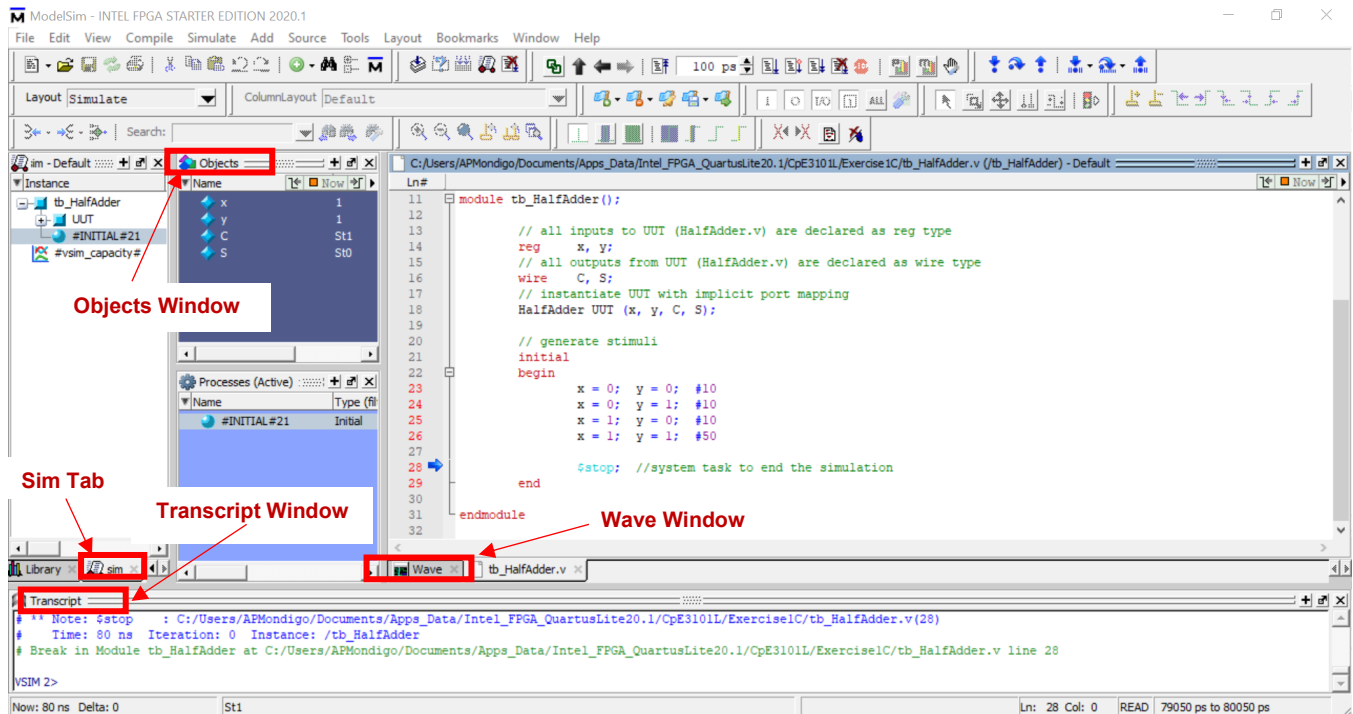

Figure 6. ModelSim - Intel FPGA Starter Edition GUI
11. To generate and run the ModelSim-Intel FPGA Edition automation script from within the Intel Quartus Prime software, click **Tools > Run Simulation Tool > RTL Simulation**. This will launch the ModelSim-Intel FPGA Edition simulator, as shown in Figure 6, and will simulate the Half Adder design. The testbench file, **tb_HalfAdder.v** is displayed at the right side of the GUI.